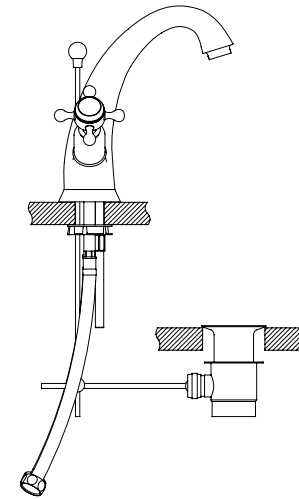

Fig. 2
- Use the washers and backnuts provided to install the mono basin into the basin as shown in Fig. 2;